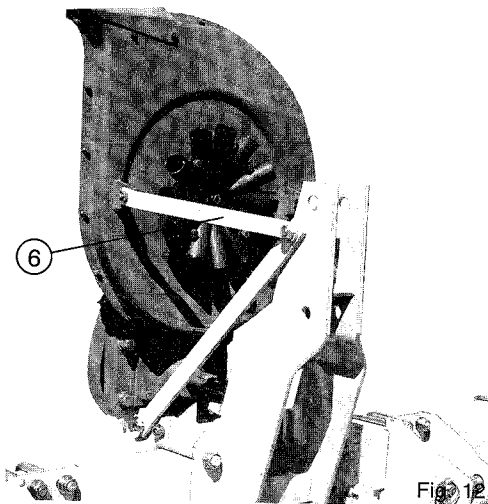
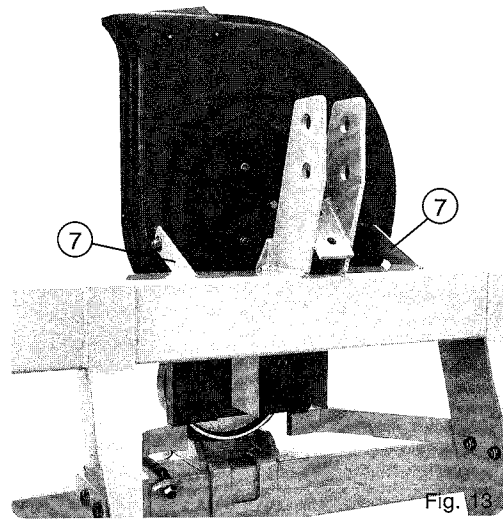

Fig. 12
Fig. 13
A semi-automatic hitch (fig. 12) is also available on certain models such as the advanced toolbar.
Make sure the support bracket (6) (fig. 12) for single toolbar and (7) (fig. 13) for double toolbar frame are tight to eliminate any vibrations of the turbofan.